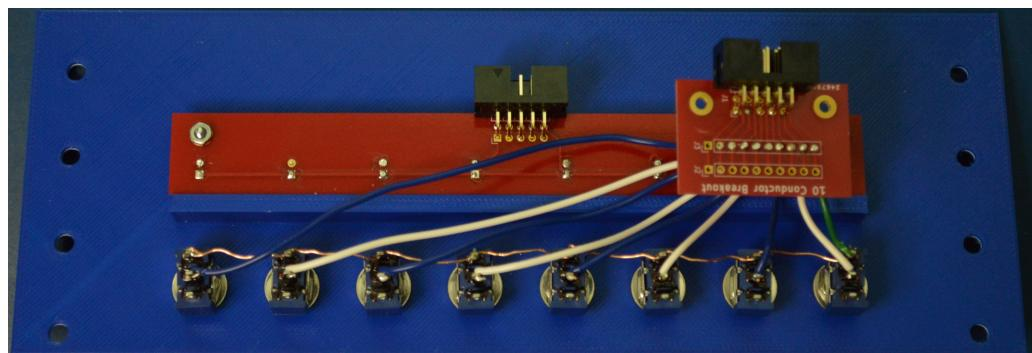

Figure 2.15: Control Panel Switches Showing Wiring
- Install the wiring for the switches as shown in Figure 2.15. The wiring is shown going to a breakout board. This allows a ribbon cable to be used to connect to the I/O board. Alternating blue and white wires are used to make it a little easier to follow. The ground wire from the breakout board is green on the far right.